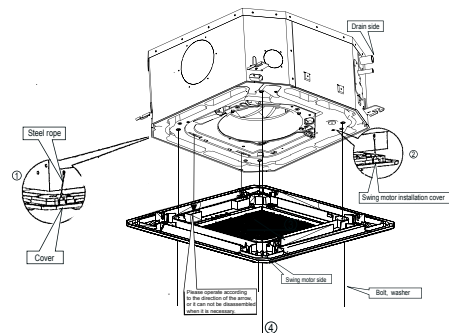

Fig.5-29
- Align the swing motor on the panel to the tubing joints of the body properly. (Refer to Fig.5-29)
- Hang the four fixed rope of the main body to the installation cover and the other three covers of the swing motor: (Refer to Fig.5-29①and②)
- Install the panel on the main body with bolt (M5×16) and washer. (Refer to Fig.5-29④)
- Regulate the panel in the direction of the arrow in Fig.5-29.③ slightly to fit the panel's center to the center of the ceiling's opening. Guarantee that hooks of four corners are fixed well.